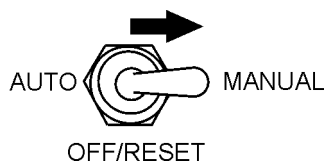

Figure 66. Auto-Off/Reset Switch
2. While keeping the **Hour Check Button** pressed, place the **Auto Off/Reset Manual Switch** (Figure 66) in the **MANUAL** position.